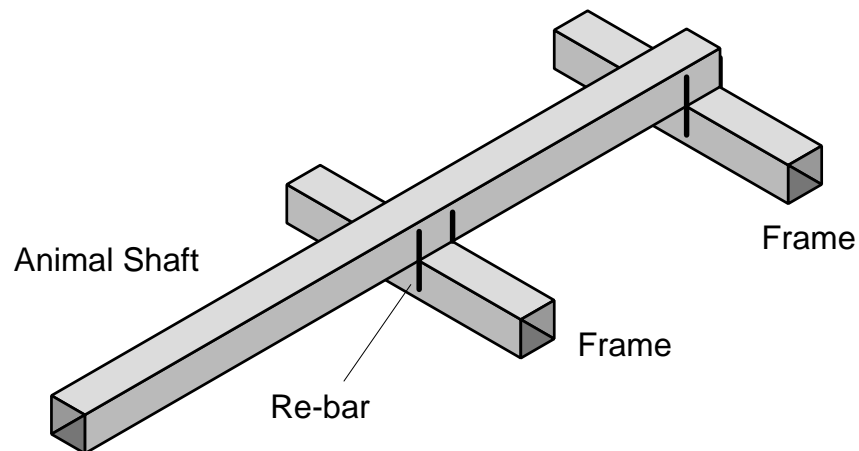

Figure 7: fixing to frame with studs.
- 8) Nearly there! Now you need to fix the draw poles or 'shafts'. It is best to fix them to the body so they can be taken off and replaced if they get damaged. Figure 7 shows how they can be fixed using short lengths of round bar.